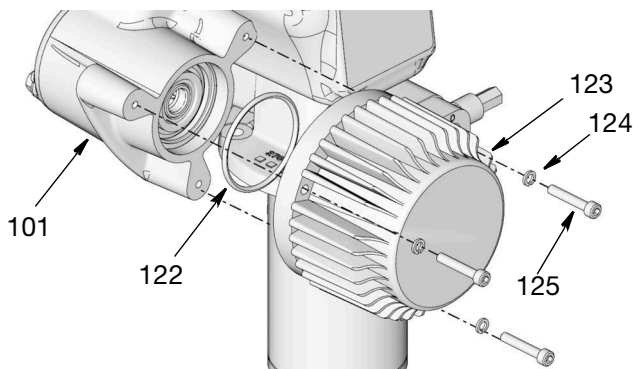

FIG. 22
8. Observe location of priming rod (215) and shovel piston (216) inside the shovel cylinder (208) (See Pump Parts, page 39). If the piston is not located in the lowest position inside the cylinder:
- a. Remove screws (125) and washers (124) holding motor (123) to gear box housing (101) (FIG. 22).
- d. Verify o-ring (122) is still in place and correctly seated in motor (123) (FIG. 22).
- e. Reinstall motor (123) to gear housing box (101) using screws (125) and washers (124). Use a wrench to tighten screws securely. Torque to 12 - 14 ft lbs (16 - 19 N.m) (FIG. 22).